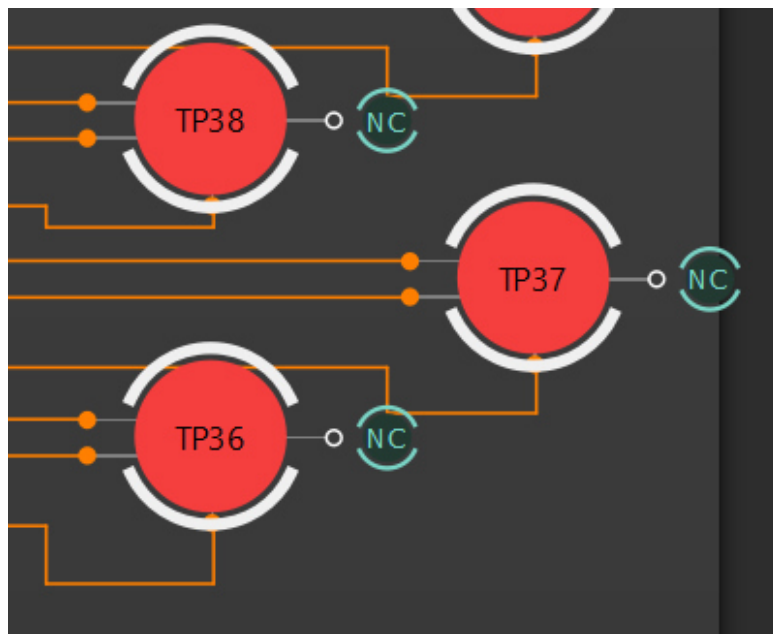

Figure 4: TP Map
i. TP Map - The Test Points of each pin will be shown next to the respective pin. (Figure 4)